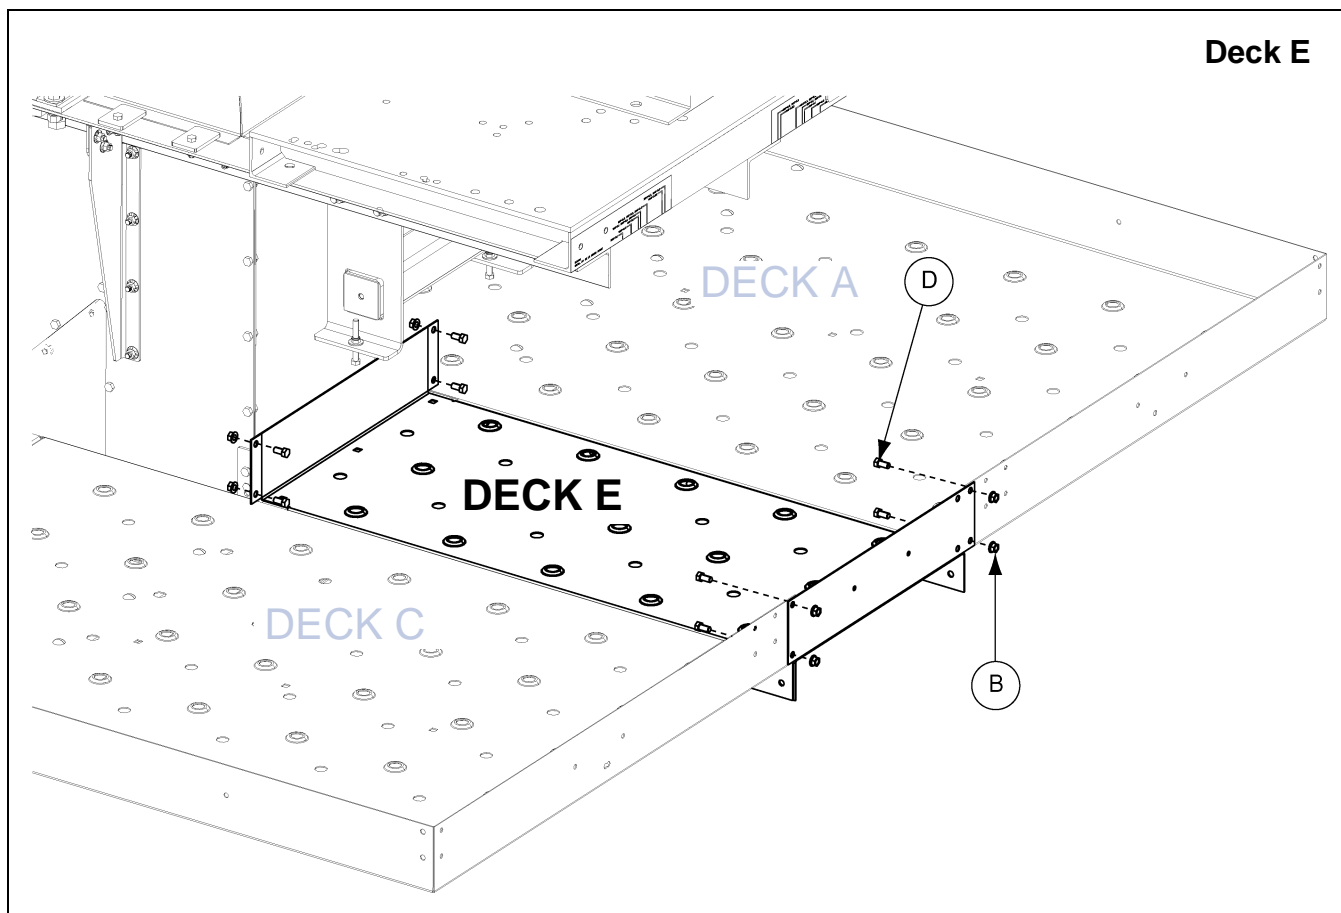

Figure 8J 24" Deck E
4. Align Deck E so the flanges are to the outside of Deck A and Deck C. Using 3/8" x 1" bolts (S-7105) and 3/8" flange nuts (S-10028), connect Deck E to toe boards and flanges of Deck A and Deck C. (See Figure 8J.)